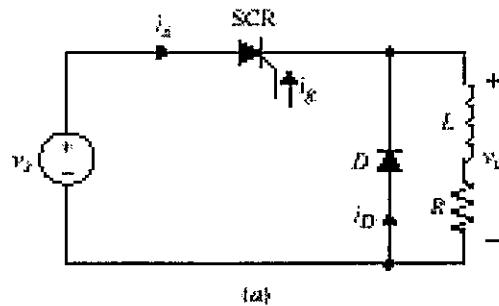

Figure 2.8 – Single Phase Half Wave Controlled Rectifier With R-L and Freewheeling Diode
2. Connect the circuit according to the circuit diagram in Figure 2.8 given.